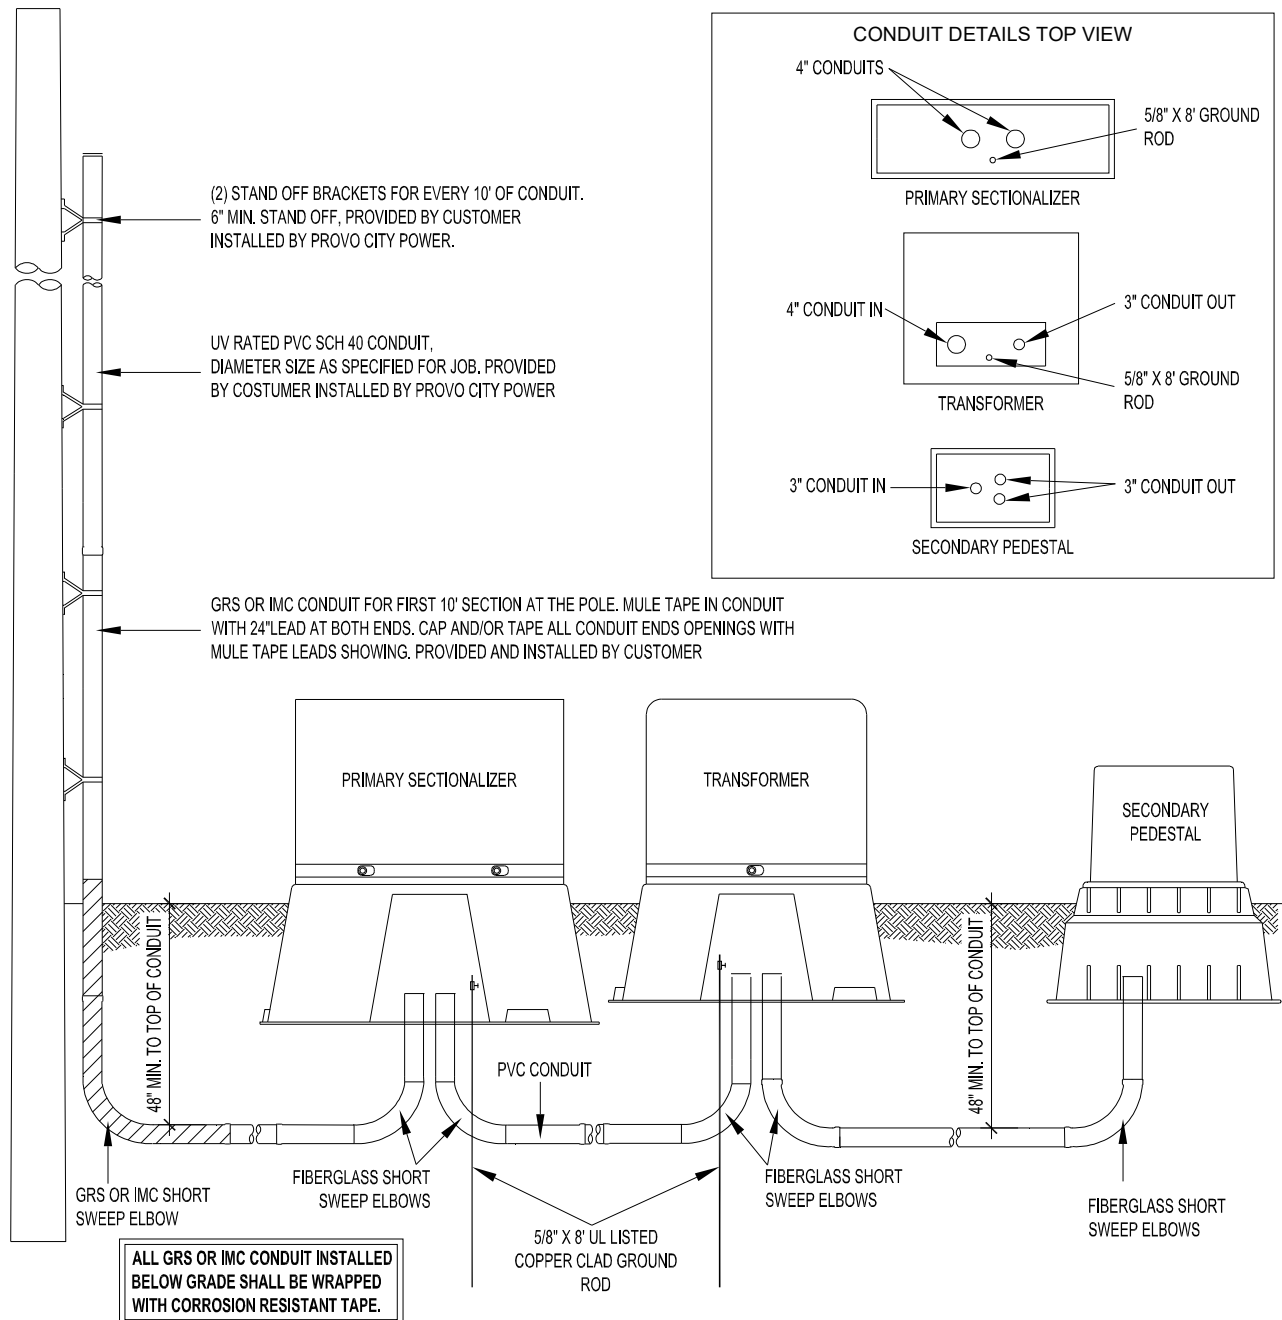

Figure 14.1 UG Specifications
- 9.1.3 See trench detail drawings for specifications (Figure 14.1)